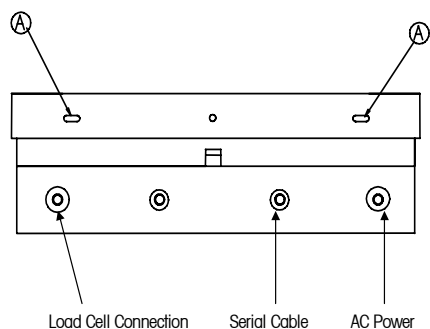

Figure 4
1. Insert the tip of a flat-blade screwdriver into one of the two slots ("A" on Figure 4) on the bottom of the front panel.